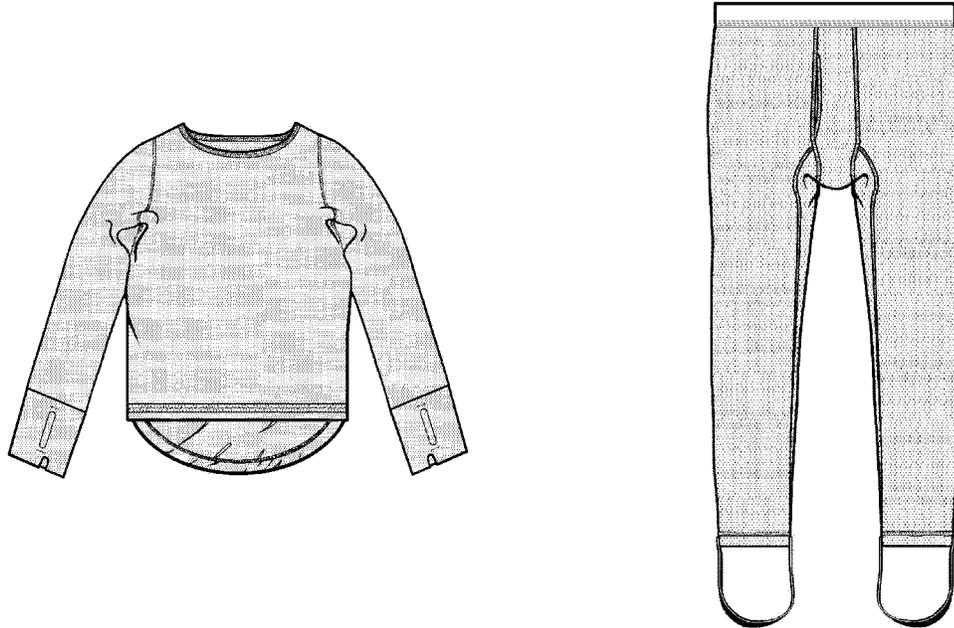

Figure 3-42. Silkweight Shirt and Trouser
1. The Silkweight garment set (figure 3-42) is a lightweight layer for times when a warmer layer is not needed or for layering under a thicker layer. The fabric is an aramid rasher knit that provides breathability, insulation and flame resistance. The shirt has a thumbhole in the cuff to allow the sleeve to be held in place when donning other layers overtop. It can also be used to keep the hand partially covered with the cuff for warmth. The shirt has an aramid mesh fabric on the bottom to reduce bulk when tucking it in. The drawer has a front fly and elastic waist. The elastic stirrup on the bottom of the leg is to aid in donning layers overtop and can be cut off by aircrew who do not like this feature.